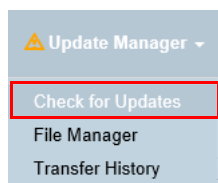

FIG. 35 Update Manager menu - Check For Updates
2. Open the Update Manager menu, and select **Check For Updates** (FIG. 35):